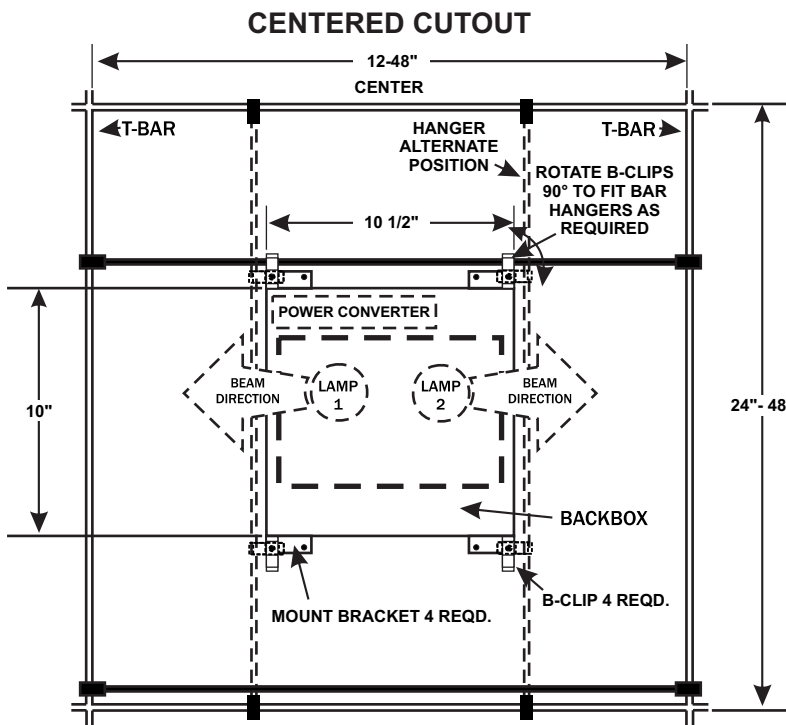

Fig. 3
1. Refer to figs 3 or fig. 5 for top or wall mount and install back box.